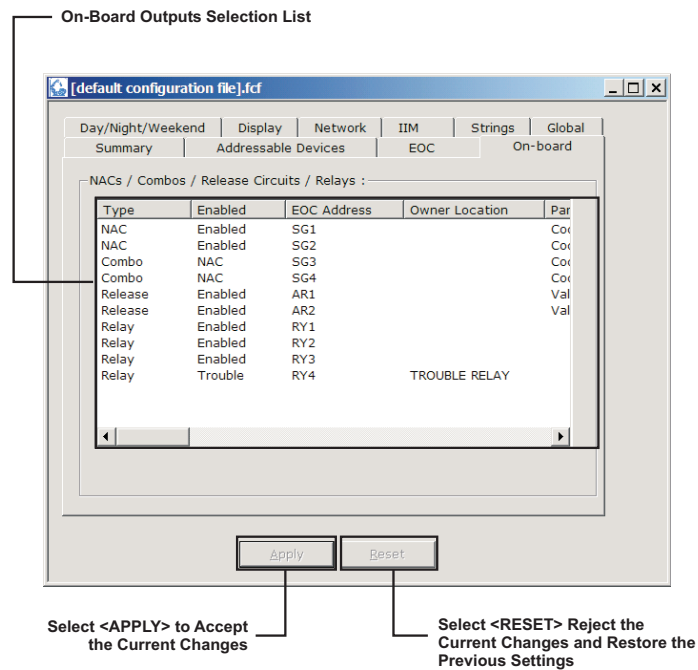

Figure 2-30. Control Unit-Based Outputs Screen
1. Select the "On-Board" tab. Figure 2-30 displays.